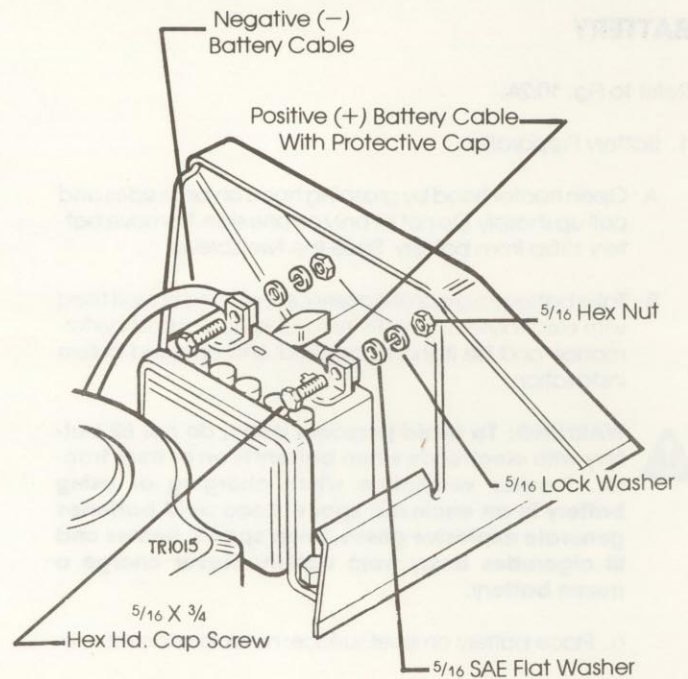

FIG. 10.3A
- C. Securely tighten the positive battery cable (with protective cap) to positive (+) battery terminal (Fig. 10.3A). After assembly, slide protective cap over terminal.